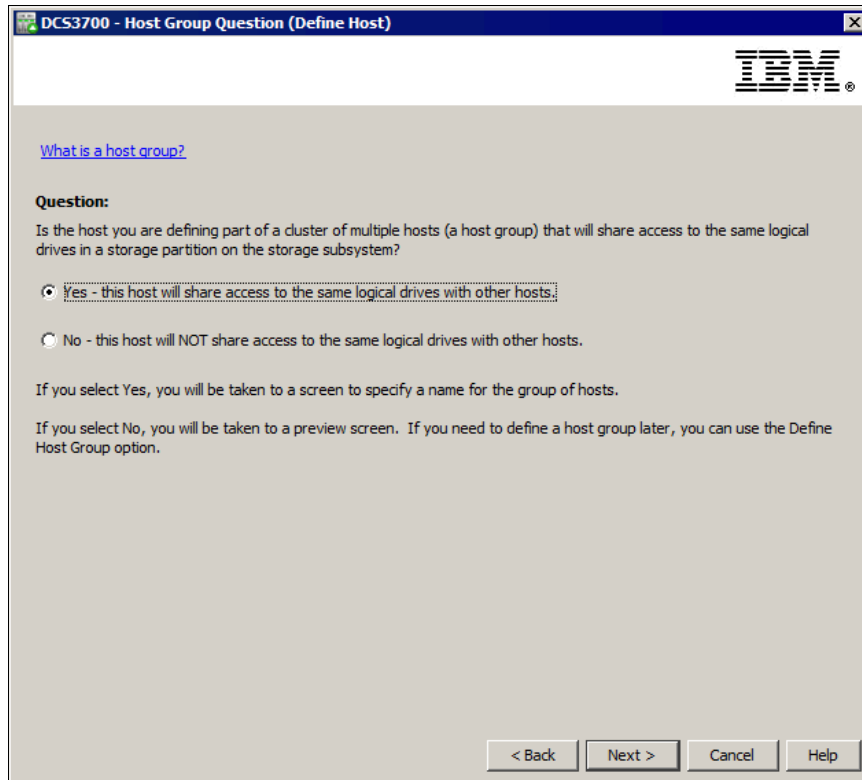

Figure 10-8 Define Host - specify sharing (clustering)
6. In the next step, you are asked whether the host is a part of a cluster (Figure 10-8). Choose **Yes** if it will be clustered or **No** if it will be a stand-alone server. Click **Next** to continue.